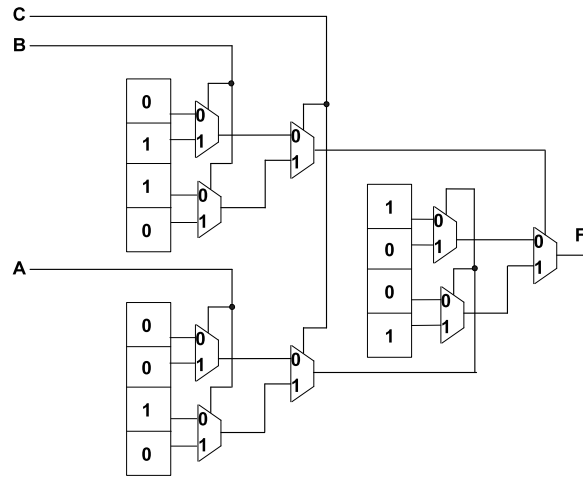

Figure 3 – Circuit for question 3.
3. The function implemented using three 2-input look-up tables (LUTs) as shown in Figure 3 is: